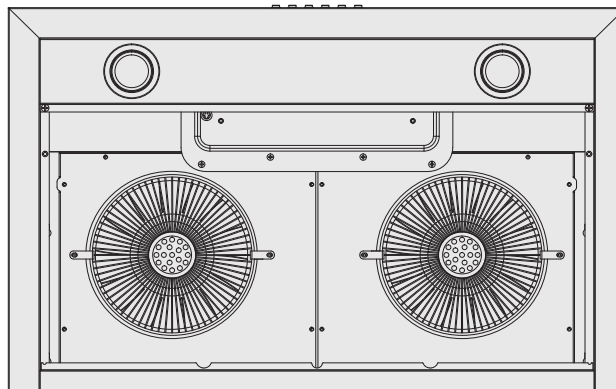

Figure 1
- Remove the two filters to allow access to the inside of the unit (see Figure 1).